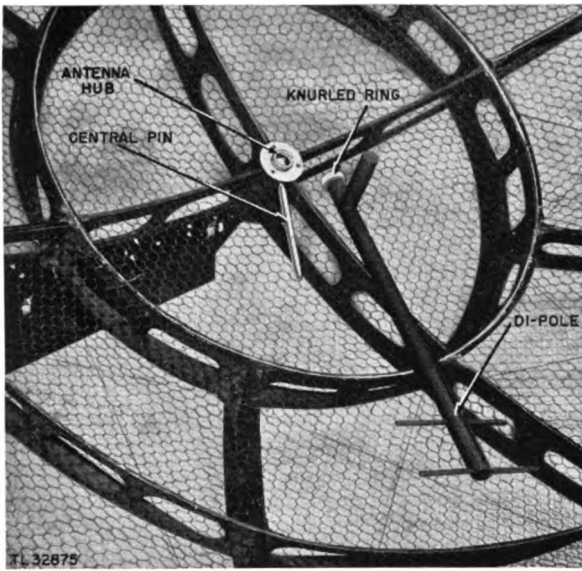

Figure 16. Parabolic reflector with dipole and pin.
j. Make sure that the inner conductor of the dipole engages the inner conductor which passes through the hub of the parabolic reflector. Orient the dipole as shown in figure 16 and screw home the knurled ring.